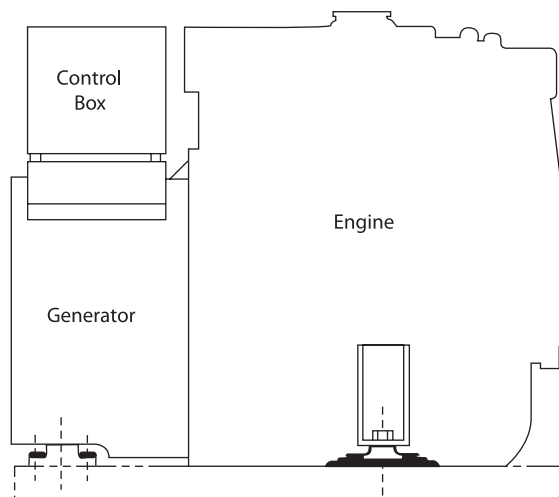

Figure 23: Composition.
1. A Generator Set includes the engine, the generator, and the control or “J” box (Figure 23).